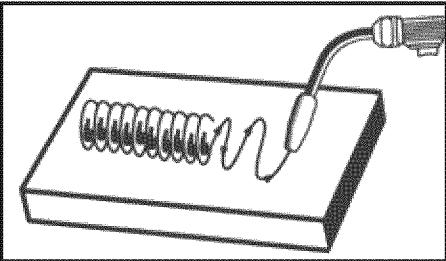

Fig. 9b
- WEAVE BEAD Used when you want to deposit metal over a wider space than would be possible with a stringer bead. It is made by weaving from side to side while moving with the torch. It is best to hesitate momentarily at each side before weaving back the other way. (Fig. 9b)